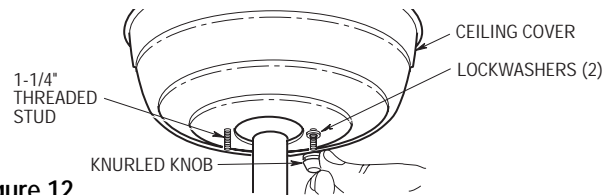

Figure 12
- 18. Lift the ceiling cover up to the threaded studs and turn until studs protrude through the holes in the ceiling cover (Figure 12).
- 19. Secure the ceiling cover in place by sliding lockwashers over the threaded studs and installing the two knurled knobs (supplied). (Figure 12.) Tighten the knurled knobs securely until the ceiling cover fits snugly against the ceiling and the hole in the ceiling cover is clear of the pipe.